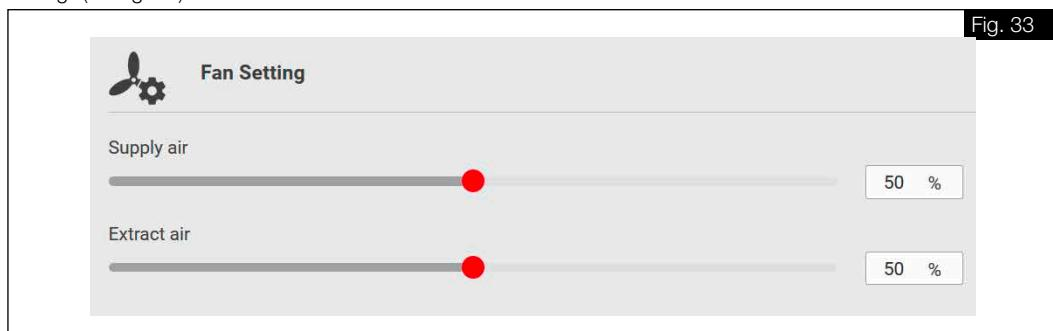

Fig. 33
5. Enter the fan powers for supply and extract air according to the determined values for nominal ventilation under “Fan setting” (cf. Fig. 33).